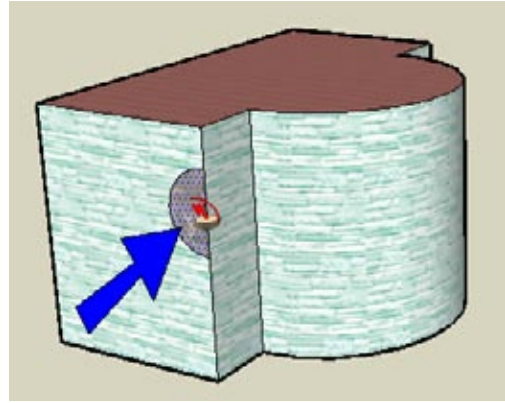

Figure 2-6
3. Click the arc face (Figure 2-6).